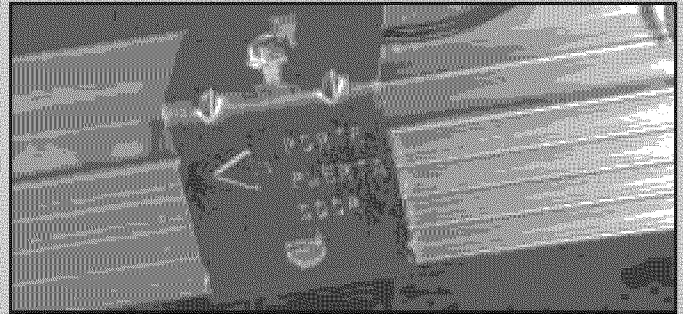

FIG. 1-11 Place limit switches.
- Place "CLOSE" limit switch (Brown wire) on rail about 12" from rail strap (Fig. 1-11).